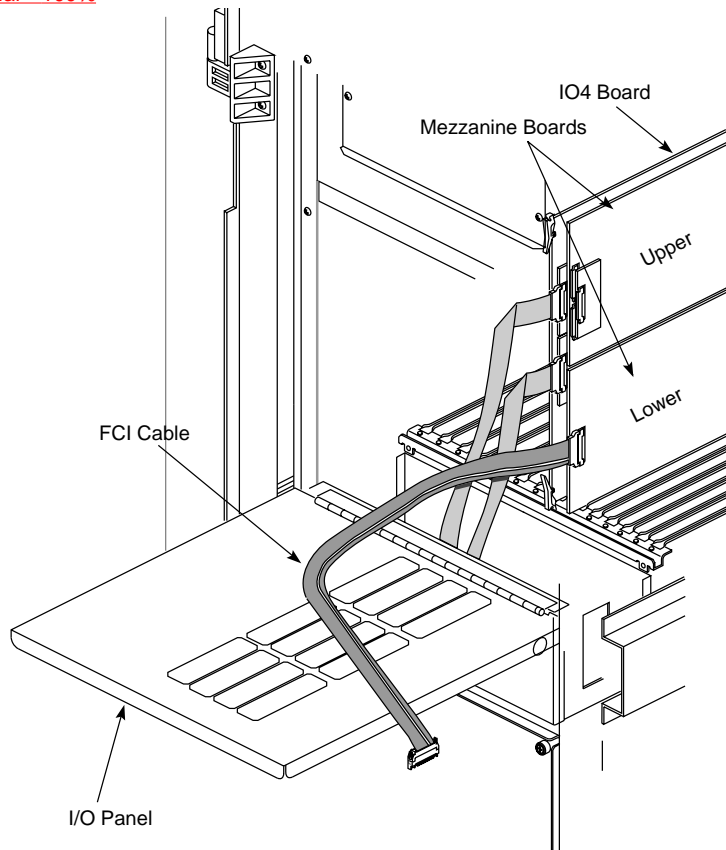

Figure 2-4 Installed IO4 Board
9. Reinstall the IO4 board into the chassis, as illustrated in Figure 2-4. Push the board firmly into the backplane. If the board has a VCAM board, the VCAM board must also connect to the backplane.